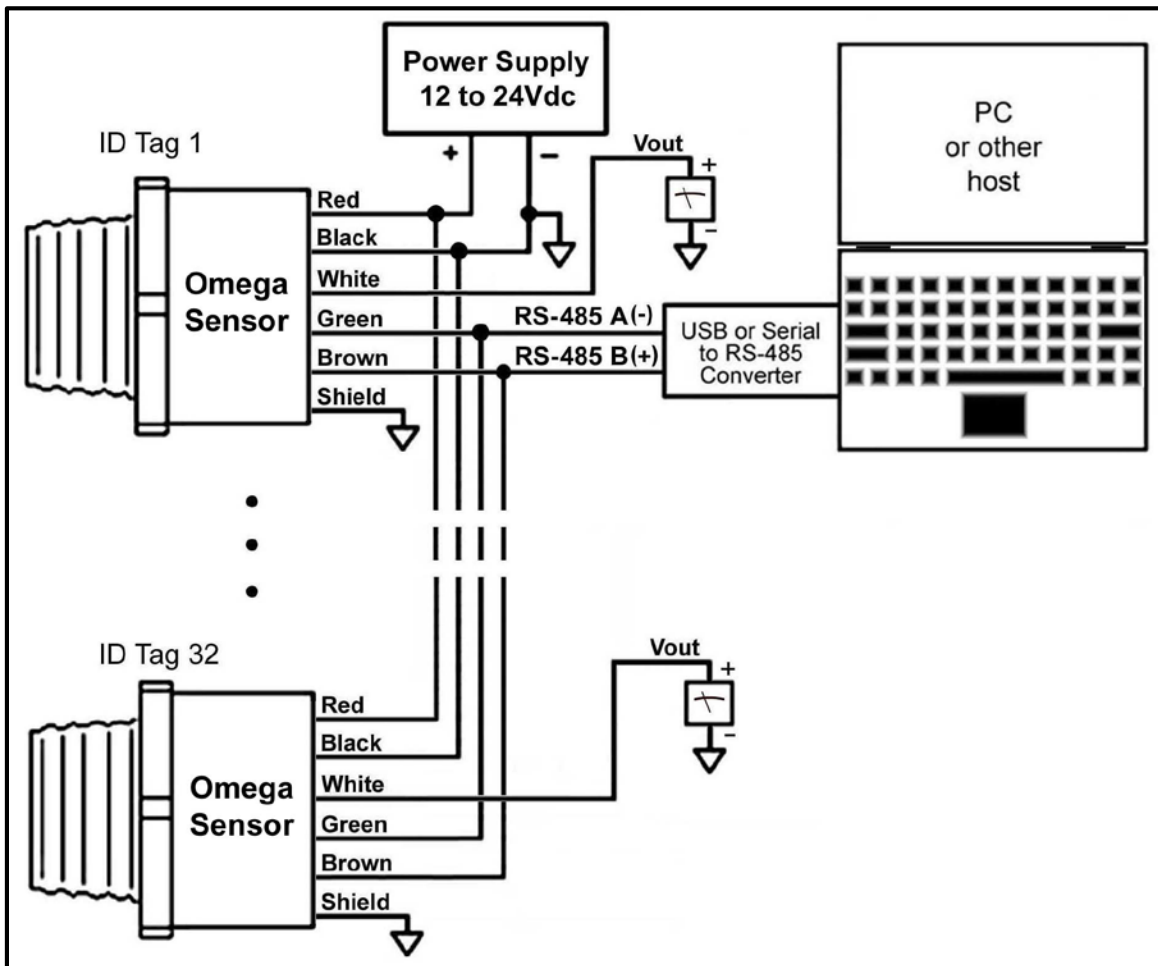

Figure 6
- Once all sensors have been programmed, wire all sensors to the power and RS485 bus as shown in Figure 6.